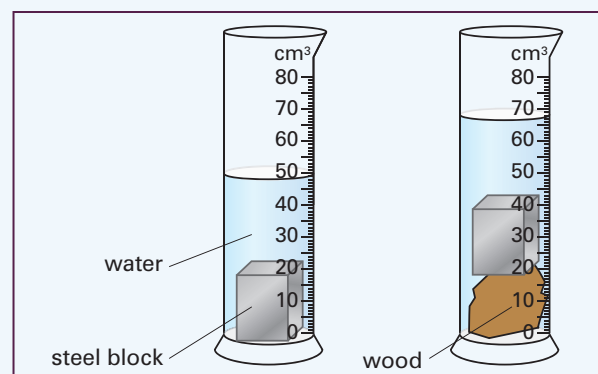

Figure 1.9 For Question 4.
- 4 Figure 1.9 shows how the volume of a piece of wood (which floats in water) can be measured. Write a brief paragraph to describe the procedure. State the volume of the wood.